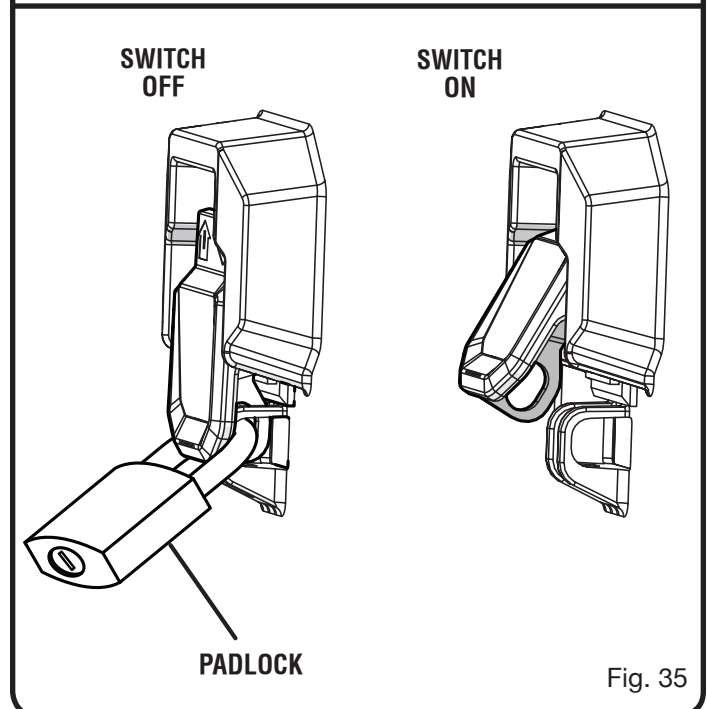

Fig. 35
**NOTE:** To prevent unauthorized use, install a padlock (not included) through the hole in the switch as shown in figure 35.